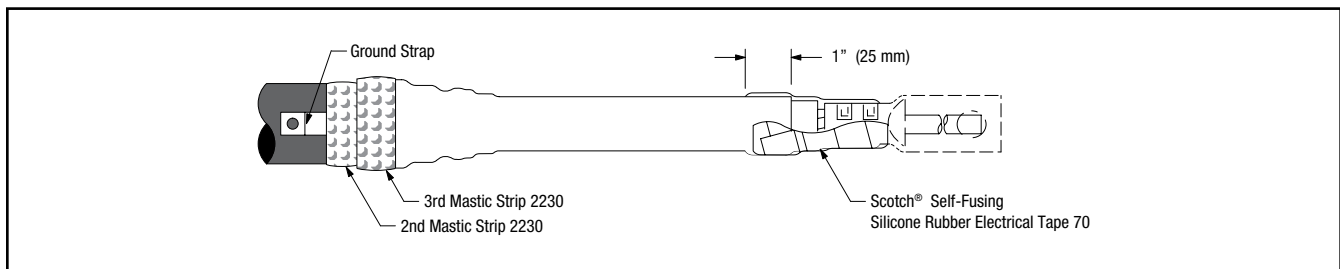

Figure 15
- e. Select second Scotch® Mastic Strip 2230 from kit and remove white release liners. Using light tension, apply a **SINGLE WRAP** of mastic over previously applied mastic. Add another **SINGLE WRAP** of mastic adjacent to the second wrap of mastic that was just applied, directly on top of the termination body (Figure 15). Cut off excess.